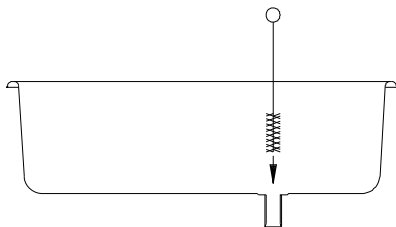

Figure 8-1 Clean mix feed port
3. Pour sanitizing solution into the hopper pan. Using a clean brush, wash down the hopper walls, hopper cover and the mix feed port from the hopper to the cylinder, as shown in figure 8-1.